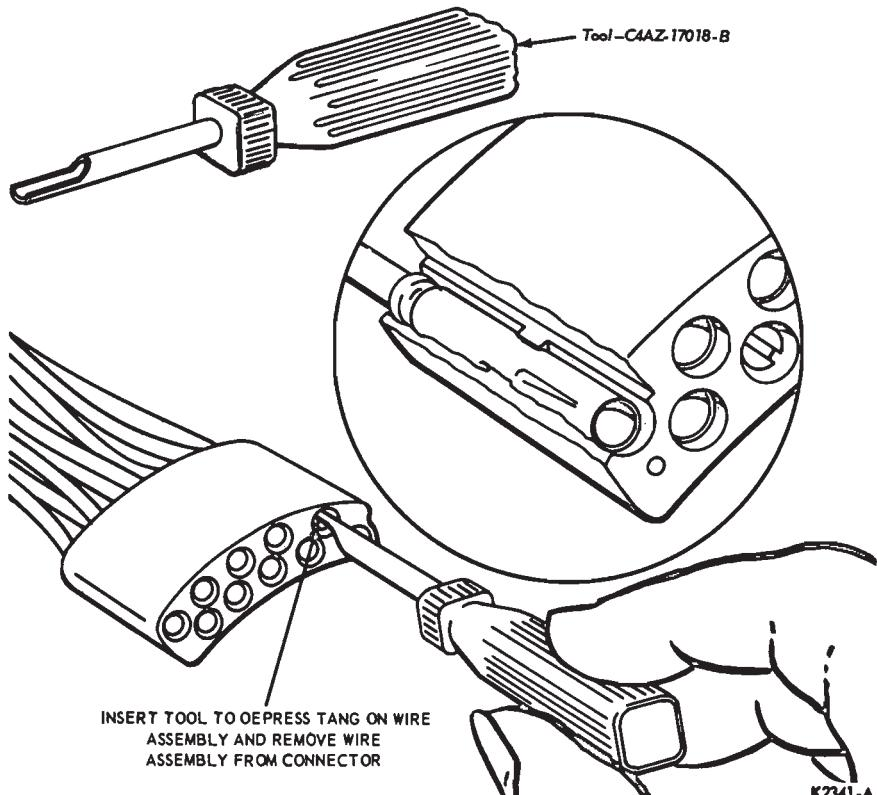

FIG. 4—Wire Terminal Removal
5. Remove the wires and terminals from the steering column wiring connector plug(s) with tool C4AZ-17018-B, as shown in Fig. 4. Record the color code and location of each wire before removing it from the connector plug. Remove the wire cover plastic sleeve.
6. On all except Ford, Meteor, Mercury and Fairlane vehicles with a fixed column, remove the wires and terminals from the steering column wiring connector plug(s) with tool C4AZ-17018-B as shown in Fig. 4. Record the color code and location of each wire before removing it from the connector plug.